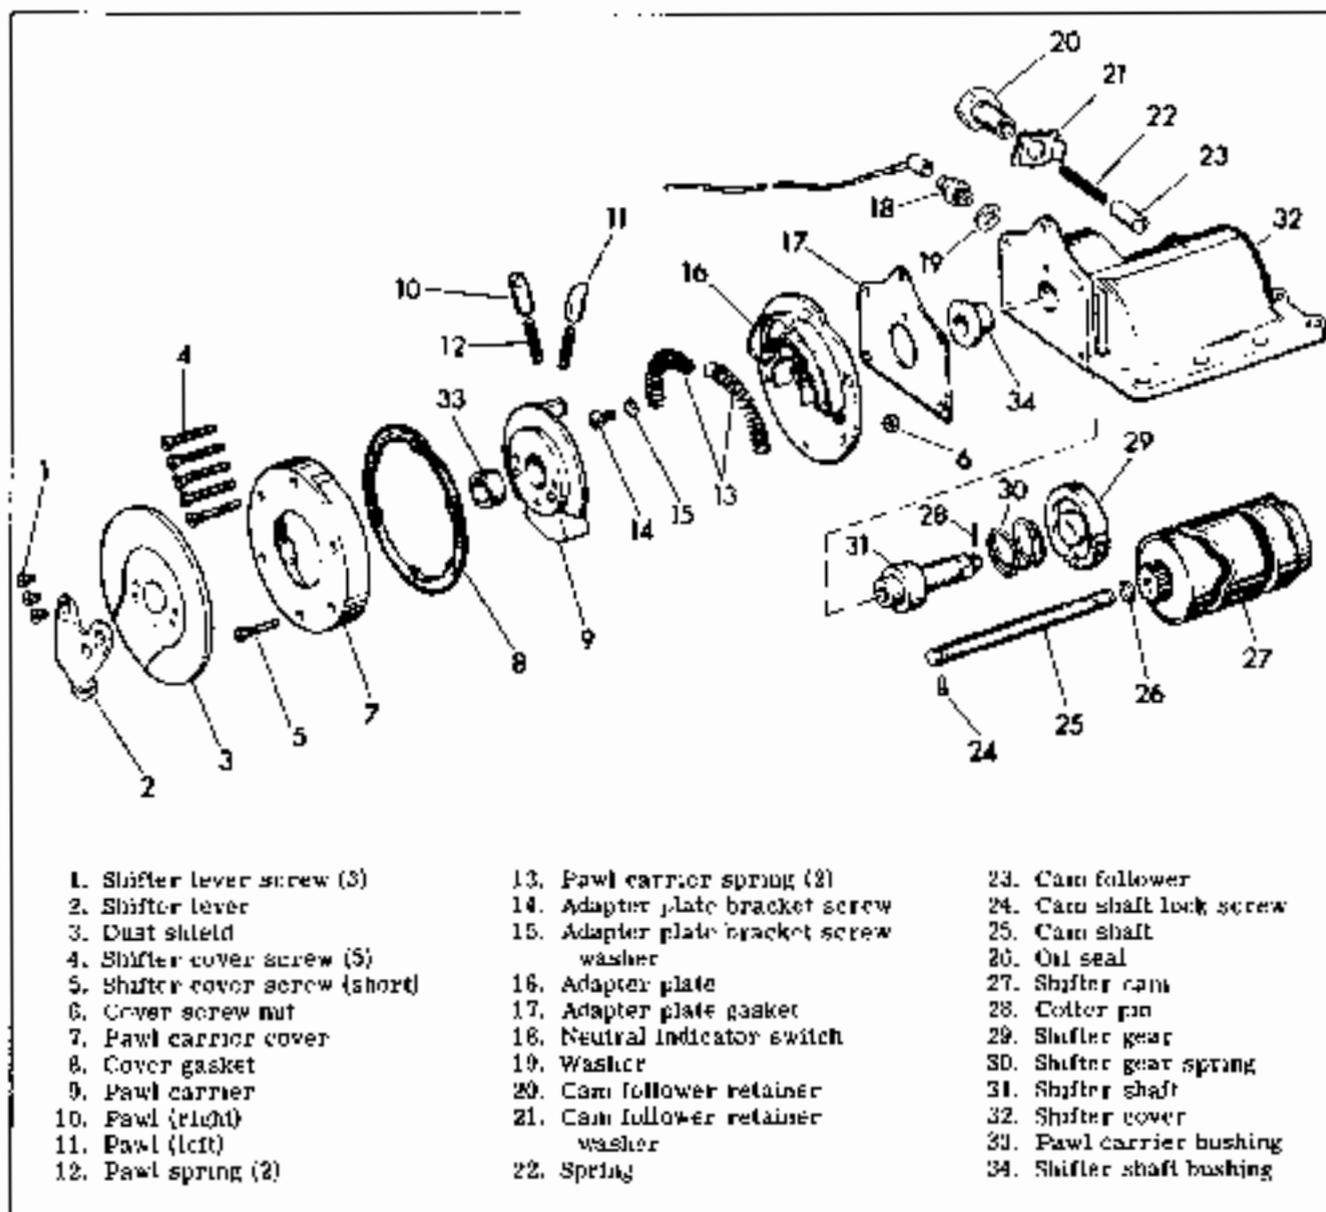

Figure 4-12. Foot Shifter Cover - Exploded View
DISASSEMBLING FOOT SHIFT COVER (Figure 4-12)
CLEANING, INSPECTION AND REPAIR (Figure 4-12)
ASSEMBLING SHIFTER COVER (FOOT SHIFT) (Figure 4-12)
Refer to Figure 4-12. Position shifter gear (29) and spring (30) in case, so side of gear with timing mark